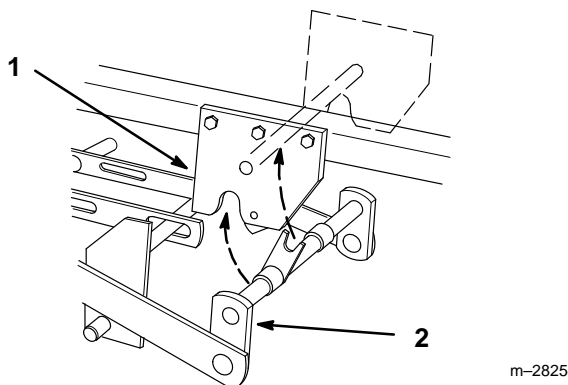

Figure 17
10. Open mid-mount hitch lock handle. Lower mower with attachment lift and remove front mounting shaft (Fig. 17).